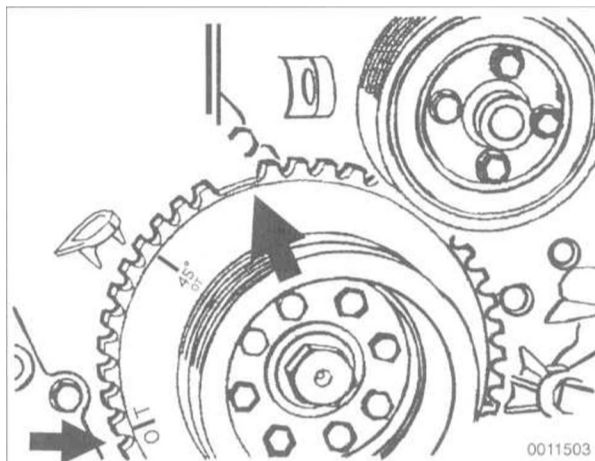

Fig. 45. Crankshaft vibration damper positioned at 45° BTDC. Note position of 0/T mark and gap in toothed wheel (arrows).
16. Slowly turn engine over (away from direction of normal rotation) until cylinder no. 1 is at 45° before TDC (BTDC). See Fig. 45.